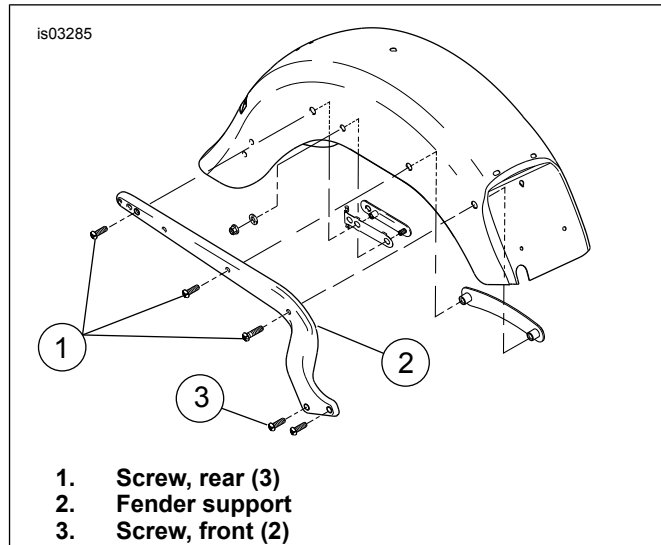

Figure 5. Fender Support Screws and Fender Support
1. See Figure 5. Remove three rear screws (1) from fender support (2).
2. Loosen, but do not remove two front screws (3) from fender support.
1. See Figure 5. Install one rear screw (1) to hold fender support in place while routing wiring. Install screw snugly but do not fully tighten.